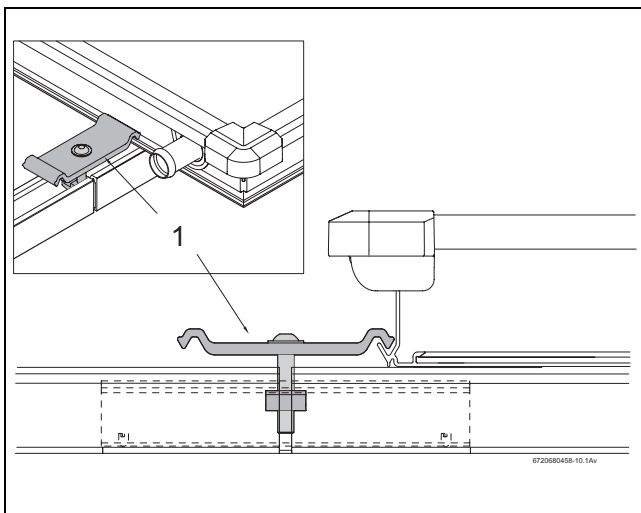

Fig. 42 Fitting the double sided collector clamp
- ▶ Place the double-sided collector clamp with the attached nut in the aperture of the profile rail and joiner (Fig. 42, [1]) in such a way that it surrounds the profile rail.